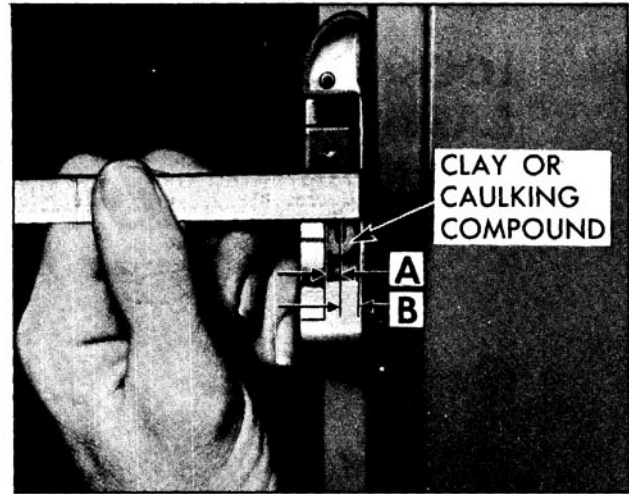

Fig. 16-481 Tailgate Striker
- b. To determine if tailgate lock striker emergency spacers are required, apply modeling clay or body caulking compound in the lock striker notch where the lock extension engages and then close the tailgate to form a measurable impression in the clay or caulking compound. (Fig. 16-481)
1. Open tailgate. Remove screw securing upper end of weatherstrip to body. (Section "A-A", Fig. 16-481)